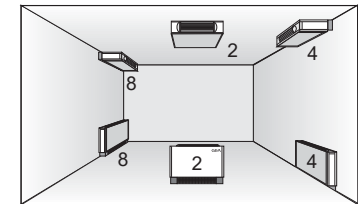
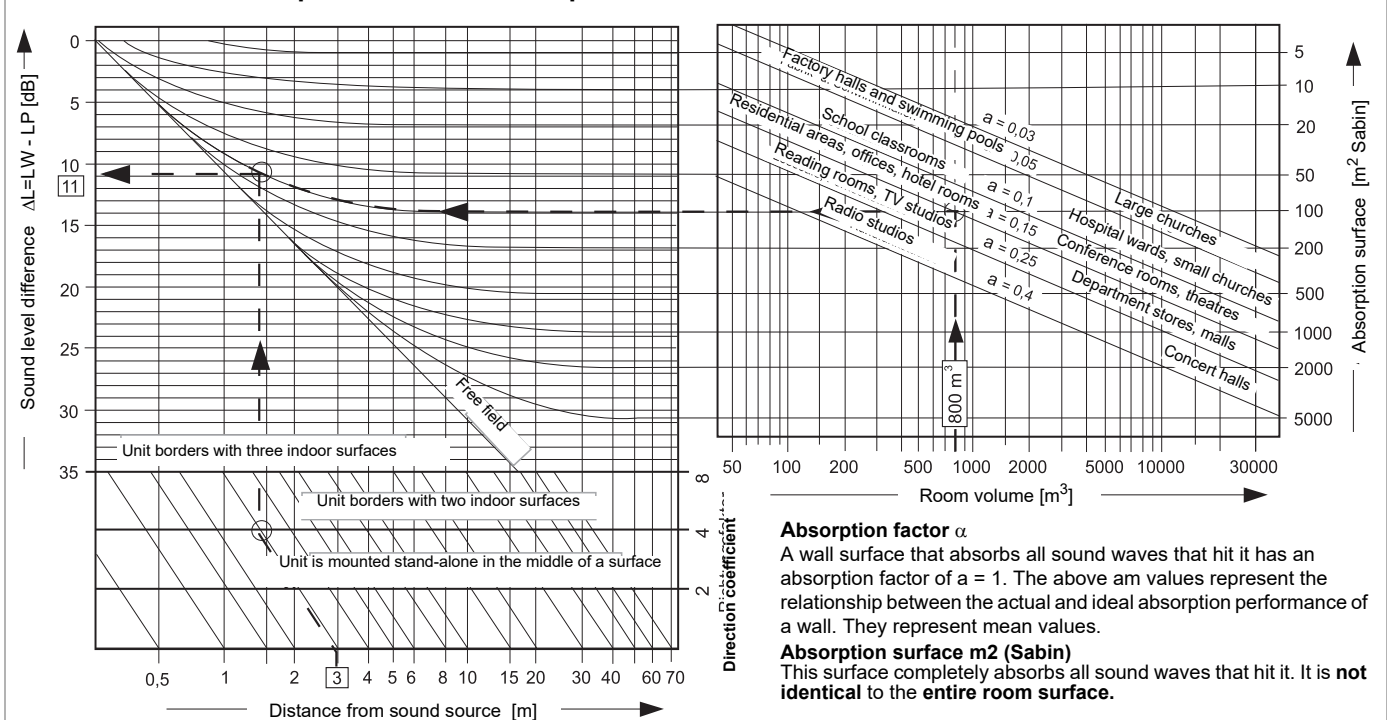

Fig. 23
Fig. 24
To determine the expected sound pressure level at the installation location, refer to the A-rated sound power level in conjunction with the conversion diagram in Fig. 24.
1. Based on the room volume (800 m3), an absorption surface of approx. 100 m2 Sabin is estimated in accordance with the diagram Fig. 24 "Homes, offices, hotel rooms, conference rooms".
2. The mean distance to the fan coils is assumed to be approx. 3 m and the direction coefficient to be "4", Fig. 23. The intersection of the dotted sample lines in the diagram Fig. 24 makes up the sound level difference:  $\Delta L \sim 11$  dB.